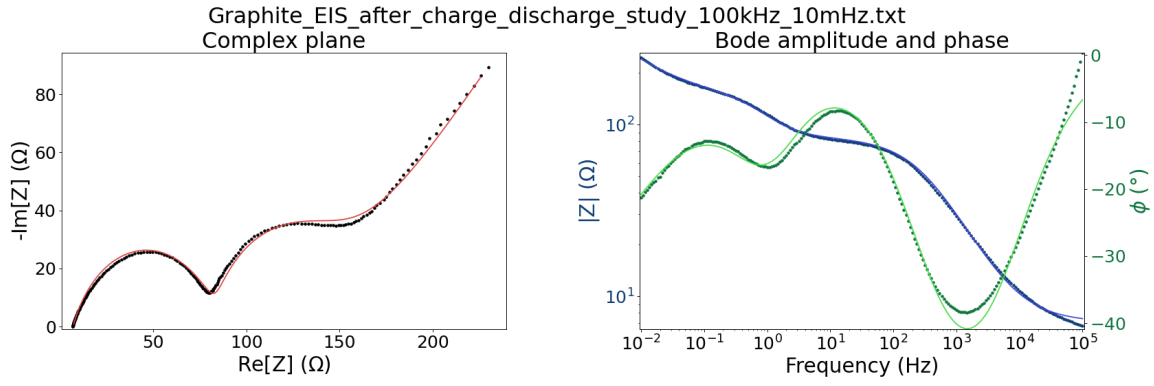

Figure 29: C||Li impedance spectrum after tuning n_2 , Q_2 , and R_2 .
11. Adjusting n_2 , Q_2 and R_2 in the same order as n_1 , Q_1 and R_1 leads to Figure 29. The parameters are in Figure 30.